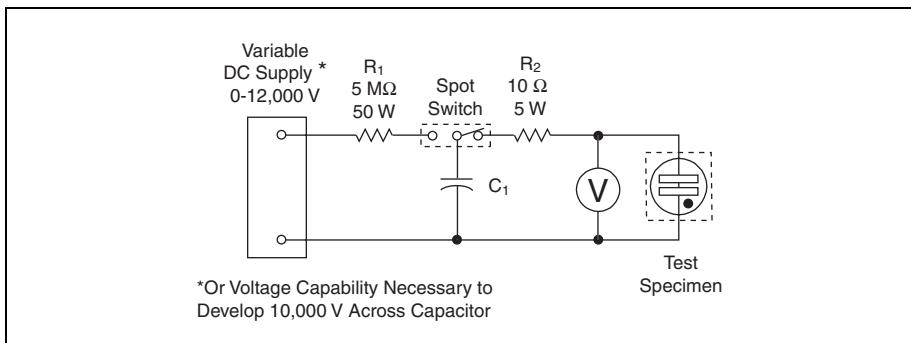

Figure 4.9 UL 497 Discharge Test
- **Discharge Test** — Protectors must comply with the strike voltage requirements after being subjected to five successive discharges from a 2  $\mu$ F capacitor charged to 1000 V dc. (Figure 4.9).
- **Repeated Discharge Test** — The arrester must continue to break down at or below its maximum rated breakdown voltage after being subjected to 500 discharges from a 0.001  $\mu$ F capacitor charged to a potential of 10,000 V dc. The interval between pulses is five seconds. Arrestors are to be tested in each polarity, and it is acceptable for the protector to short circuit following the discharge testing. (Figure 4.9)